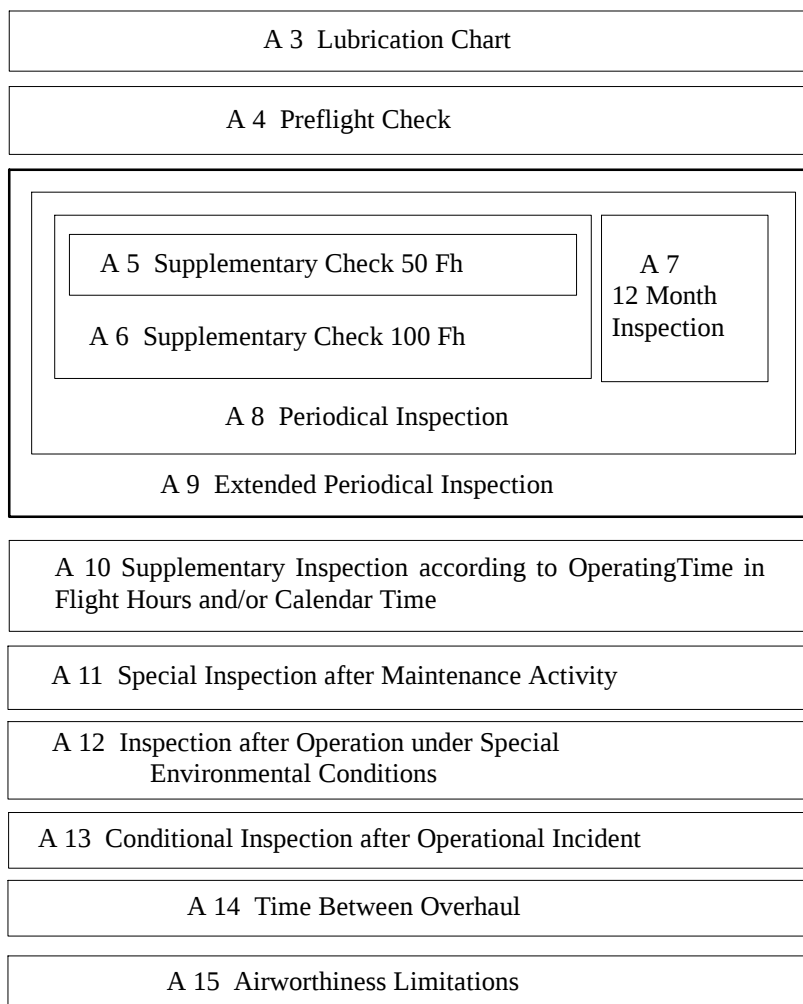

Fig. A1 – Inspection Scheme
- b. Fig. A1 represents Appendix A “Inspections and Airworthiness Limitations”. The contents of Sections A5 thru A9 are compiled in such a way, that on reaching the corresponding time limits only the required inspections have to be performed. Inspections with shorter intervals are fully incorporated. This means, that the Extended Periodical Inspection A9 contains the Periodical Inspection A8, which in turn contains the Supplementary Check 100 Fh A6 and the 12 Month Inspection A7. The Supplementary Check 50 Fh A5 is incorporated in the Supplementary Check 100 Fh A6.